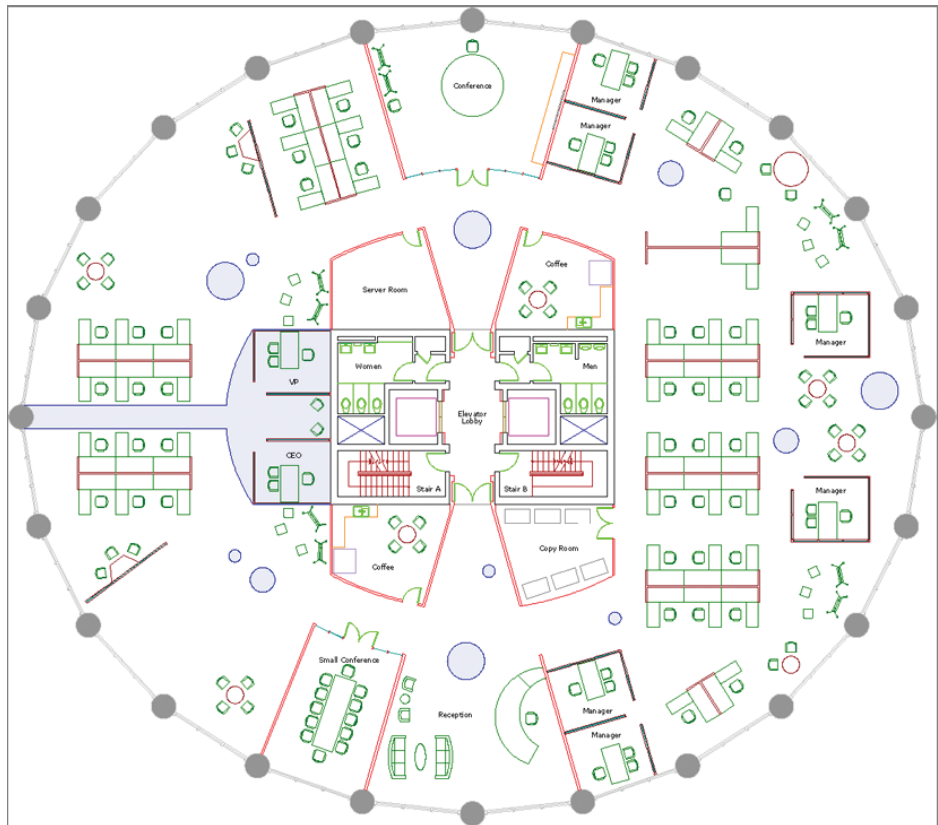

FIGURE 4.1 Office building start file
1. Go to the book's web page at www.sybex.com/go/autocad2014essentials, browse to Chapter 4, get the file Ch4-A.dwg (or Ch4-A-metric.dwg)—a fictitious office building—and open it (see Figure 4.1).